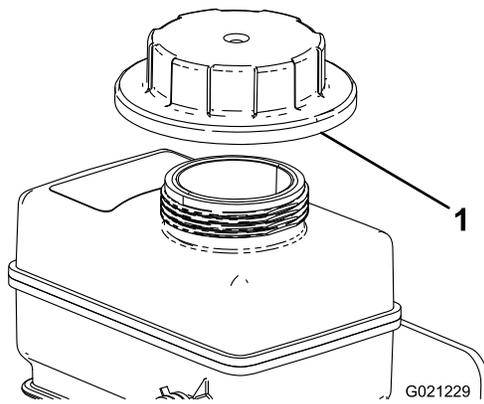

Figure 78
8. Slowly fill the coolant-reserve tank until level reaches the bottom of the filler neck (Figure 78).
9. Install the cap on the coolant-reserve tank (Figure 78).